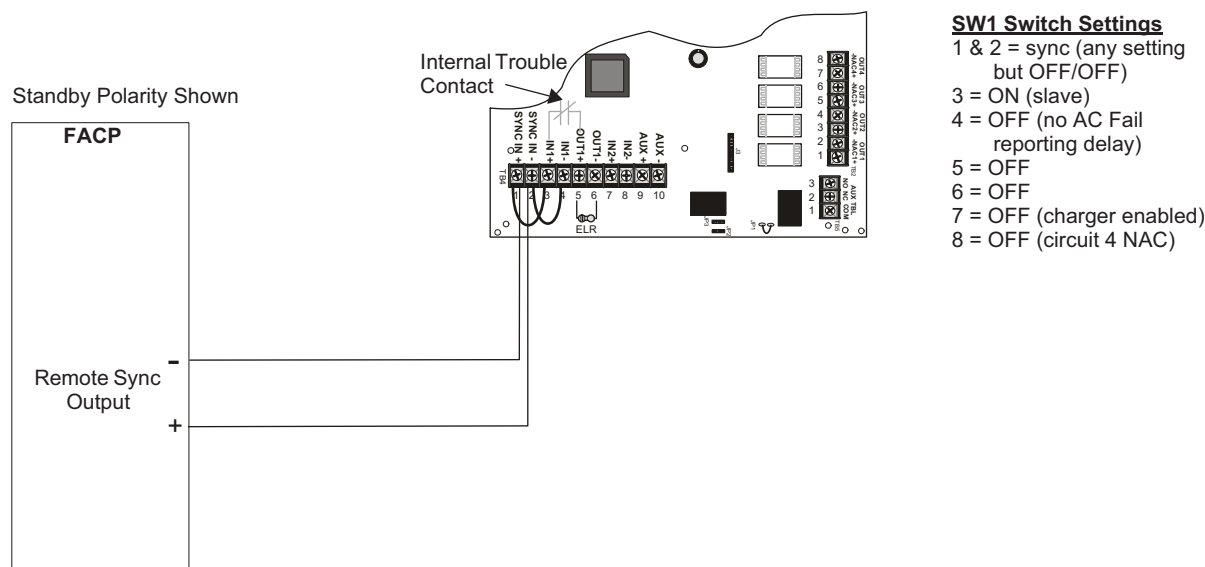

Figure 5.5b: Supervised Master/Slave Connections (Remote Sync Source)
3. If the FACP has a dedicated sync output connector, wire the remote sync output connector to the FCPS Sync In terminals TB4 terminals 1 & 2. Refer to the Supervised Master/Slave Connections (Remote Sync Source) in Figure 5.5b.